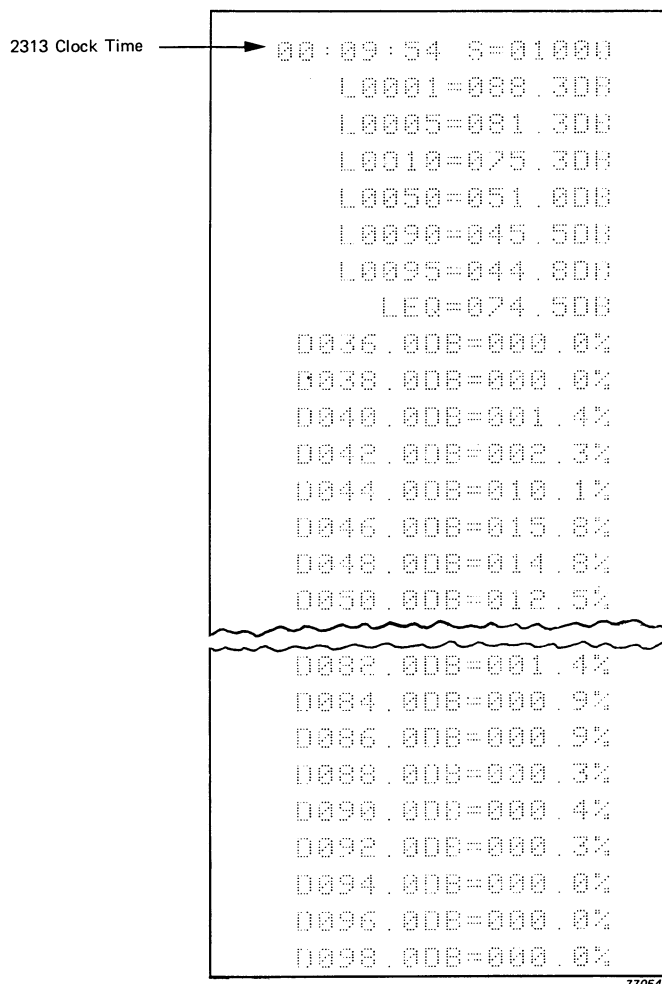

Fig.3.10. Example of 2312 print-out from 4426
Some examples of print-out formats are given in Figs.3.10 and 3.11. The actual print-outs are a cobalt blue colour. Fig.3.10 gives an example of a print-out from the 4426 showing first the time, which is always left-justified, and the accumulated number of samples (S). Following this are various L_N values, and L_{eq} , and then a list of distribution (D) functions as percentages. Note that the zeroes are denoted by \emptyset . Apart from the time, everything in this example is right-justified. See also the 4426 Instruction Manual.